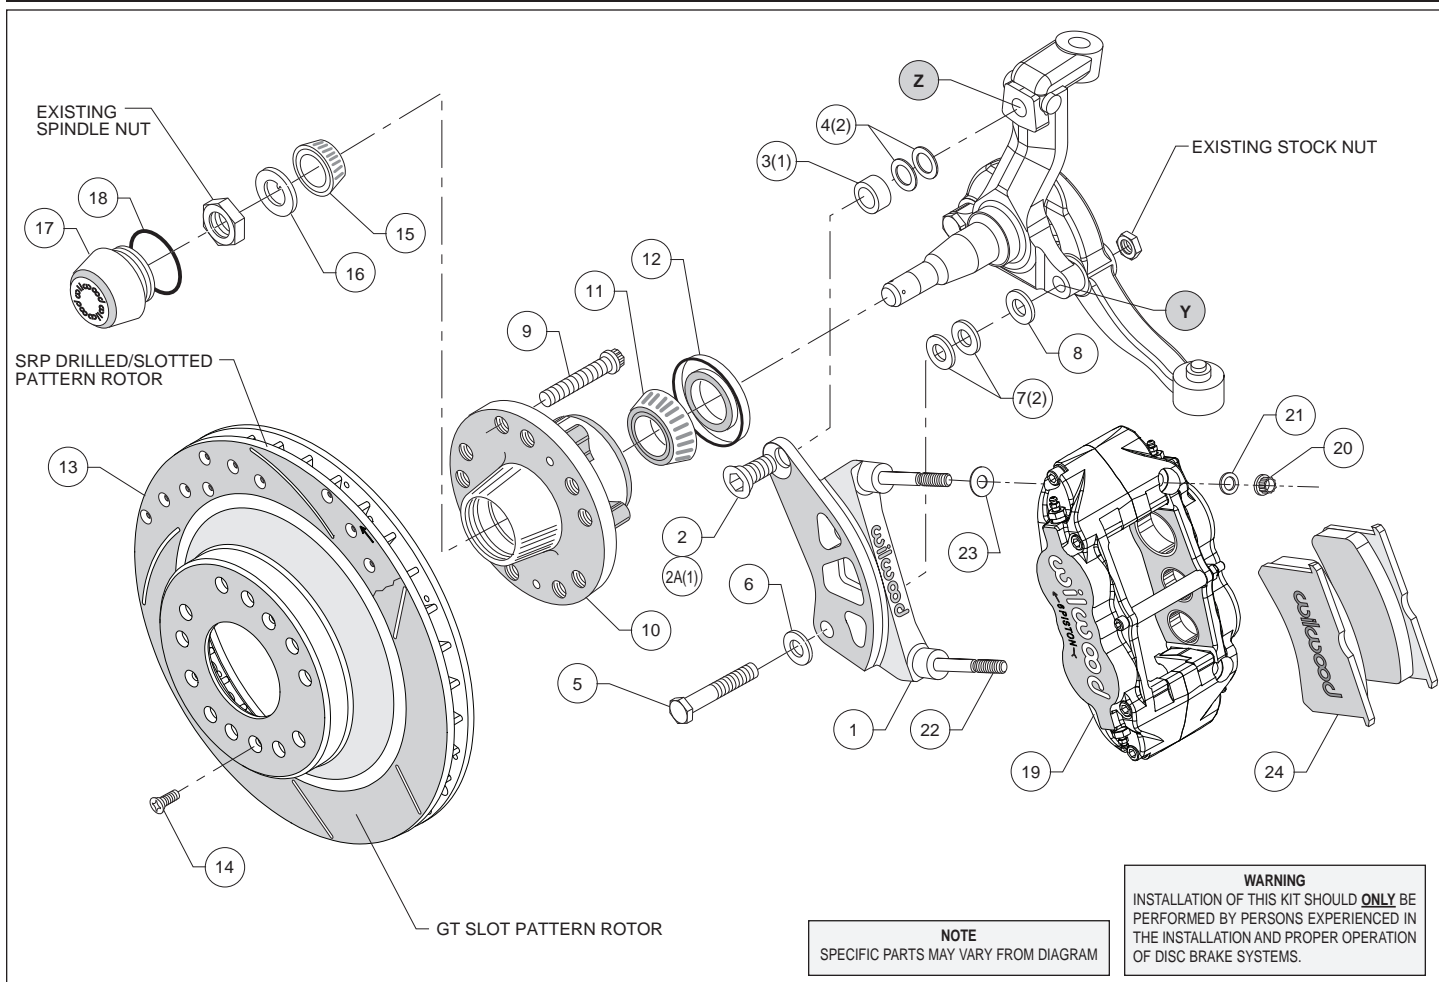
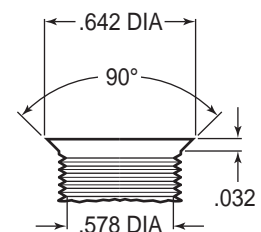

Figure 1. Typical Installation Configuration
Figure 3. Drill and Tap Detail
Assembly Instructions (numbers in parenthesis refer to the parts list on the preceding page, and Figure 1):
•**NOTE:** 1964-66 spindles may require the following modifications (reference figure 1 and 3): Top anchor pin hole (Z) must be drilled and tapped to the dimensions as outlined in Figure 3. Bottom rear steering arm bolt hole (Y) in the spindle and steering arm must be enlarged to .50" by drilling. A 1/2-20 backing nut (not supplied in kit) will need to be acquired to torque bracket / steering arm bolt (supplied in kit).
•**Disc Application:** The caliper mount bracket (1) should be installed first with clean, dry threads on the mounting bolts. Orient the bracket as shown in Figure 1, and install using bottom bolt (5), washer (6), and washer (7, Heids spindle kit only). Install the upper bolt (2A), spacer (3) and washer (4, Heids spindle kit only), finger tighten only. **NOTE:** The bracket must fit squarely against the mount bosses on the upright. Inspect for interference from casting irregularities, machining ridges, burrs, etc. If needed to align the bracket parallel to the spindle, add shim washer (8) between bracket and spindle as shown in Figure 1. Once the bracket alignment is correct, remove the mounting bolts one at a time and apply red *Loctite*[®] 271 to the threads, and torque bolt (2A) to 140 ft-lbs and bolt (5) to 77 ft-lb.
•**Drum Application:** The caliper mount bracket assembly (1) should be installed first with clean, dry threads on the mounting bolts. Orient bracket as shown in Figure 1, and install using the bottom bolt (5), washer (6), and washer (8). Install the upper bolt (2), finger tighten only. **NOTE:** The bracket must fit squarely against the mount bosses on the upright. Inspect for interference from casting irregularities, machining ridges, burrs, etc. Once the bracket alignment is correct, remove the mounting bolts one at a time and apply red *Loctite*[®] 271 to the threads, and torque bolt (2) to 140 ft-lbs and bolt (5) to 77 ft-lb.
•Install wheel studs (9) into the hub (10), Photo 1. Torque to 77 ft-lb. **NOTE:** There are two five lug patterns in the hub (5 x 4.50 and 5 x 4.75). Ensure the correct hub stud pattern is being used to fit the wheel application.
•Pack the large inner bearing cone (11) with high temperature disc brake bearing grease (available from your local auto parts store) and install into the backside of the hub (10), Photo 2.
•Install the grease seal (12) by pressing into the backside of the hub (10), flush with the end of the hub, Photo 2.
- Slide the hat/rotor (13) onto the hub (10) taking care to align the small countersunk holes in the hat with the small threaded holes in the hub. **NOTE:** The hat must fit flush against the hub face or excessive rotor run out may result. Install three flat head screws (14) through the small holes in the hat (13), Photo 4, and torque to 85 in-lb.
- NOTE:** This kit contains distinct right and left hand calipers that must be mounted in a specific direction, as described below. Lubricate the caliper mounting studs (22) with lightweight oil. Initially place one .035" thick shim (23) on each stud between the caliper and the bracket, as shown in Figure 1 and Photo 5. Mount the caliper (19) onto the bracket (1) using lock nuts (20) and washers (21), Figure 1. Ensure that the caliper is mounted so the largest pistons are at the rotor exit end of the caliper, in relation to the direction of rotor rotation. Temporarily tighten the lock nuts.